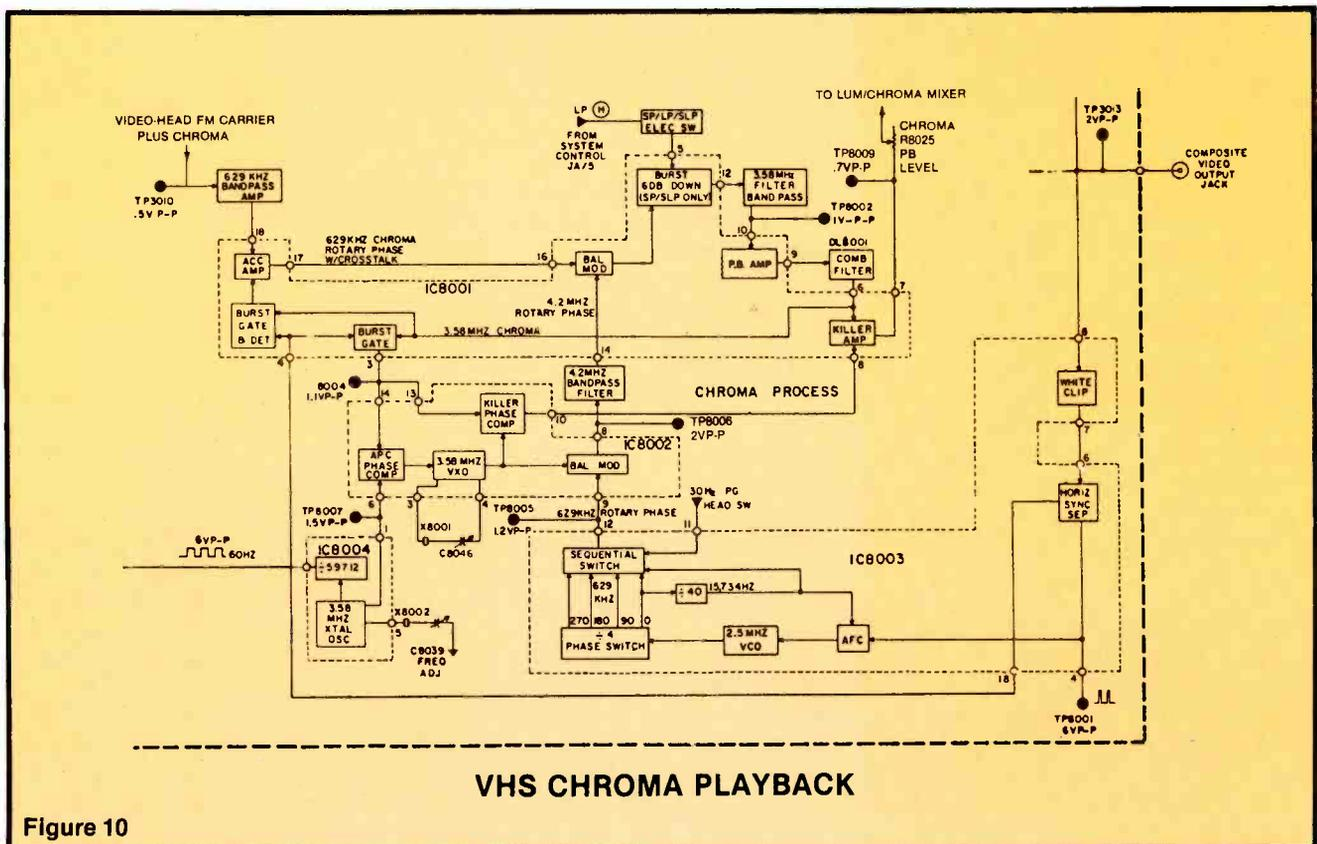

Figure 10
- The 629kHz chroma signal and the 4.2MHz CW carrier are inputs to the balanced modulator, producing an output of 3.58MHz chroma at TP8002. A comb filter farther downstream removes chroma crosstalk (Figure 10).
Figure 10 shows six dual-trace waveforms illustrating a wide range of highpass filter effects from almost none (Figure 10A) to extensive (Figure 10F) when square waves are passed through filters having various time constants. In all cases, the top trace shows the incoming square waves for reference. The precision 20K Ω resistor and many capacitor values from the lowpass filters were used in the Figure 10G circuit. Included with the other information is a table showing the sine wave frequency responses of six time-constant filters. These will help you estimate the frequency response of amplifiers according to the amount of square-wave integration.
frequency-response table (in Figure 10) shows good low-frequency audio response, with the 20Hz response (for example) down only 0.9dB, which is acceptable for all but the most exacting audio applications. Remember, 20Hz is more than 3 octaves (a musical octave is the interval between one frequency and double or half that frequency) below the 200Hz square-wave test frequency. Also, the slight loss of bass response will not be noticed with most speaker systems (even those with woofers up to 12-inch sizes) because those systems seldom reproduce anything below about 55Hz.
Estimates of the frequency responses of unknown audio circuits can be obtained by comparing its 200Hz square-wave tilts or charge/discharge curves with those in Figure 10. When similar conditions are found, the sine wave frequency response for that highpass filter (which probably is capacitive coupling between stages) can be estimated by comparison with the one-cycle time of the waveform. This test works only for time constants longer than those giving the classical capacitor-voltage-discharging curve (Figure 10D) where the curve reaches zero by the end of the positive peak.
Figure 10. Six different time constants illustrate the effect of highpass filters on square waves. (A) A large 20,000µs time constant tilted top and bottom of the square wave, an indication of decreased low-frequency response, although the sine wave response tested good at low frequencies (see text). (B) Decreasing the time constant to 4240µs tilted the top and bottom even more. Also, the top and bottom lines are not perfectly straight, but appeared to have a slight curvature. (C) A time constant of 1340µs increased the tilt and the curvature of top and bottom. Notice that the rising and falling edges remained the original height, and all corners are sharp, not rounded. (D) Curvature at top and bottom increased when the time constant was changed to 500µs, the value for the classic one-time-constant curve. (E) Decreasing the time constant to 245µs decreased the time for the curve to reach zero. (F) A small 56µs time constant narrowed the positive and negative curves to spikes. Decreasing the time constant would only narrow those spikes, and if carried too far, the spike amplitude would decrease finally. (G) A highpass filter is similar to part of the resistance-capacitance coupling between audio stages. Notice that the output waveform shows the capacitor current. (H) The frequency responses of the six highpass filters are listed for comparison with the matching waveforms.